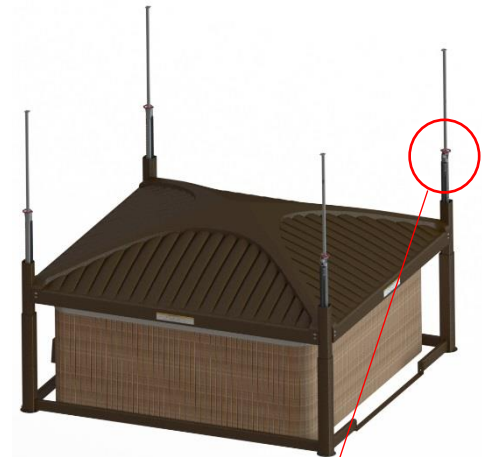

Figure 23
6) Raise the jacks until the system stops at its maximum limit. (Figure 23)